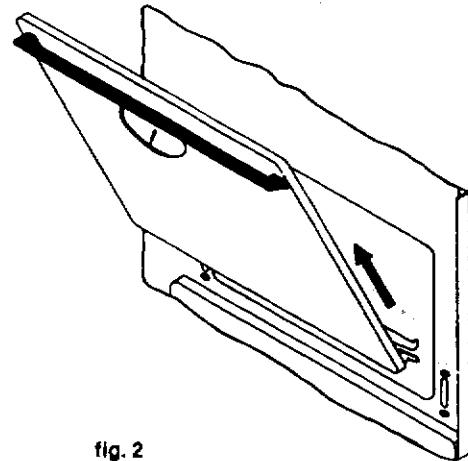

fig. 2
3. Close the oven door until 20 cm (8 in.) and remove it upwards in direction of the arrow (Fig. 2).